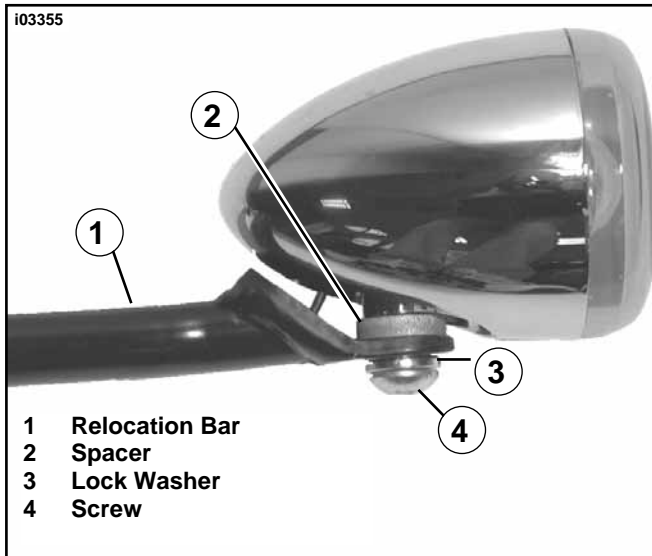

Figure 9. Installing 2-3/8 inch Turn Signals (Deuce Style)
15. **Installing 2-3/8 inch (Deuce Style) Signal Lamps.** See Figure 9. Apply Loctite® 243 (Blue) to screw (Part No. 4092). Using screw, lock washer (Part No. 7041) and spacer (Part No. 65849-01), attach lamp to signal relocation bar as shown. Spacer should be installed between signal and signal relocation bar. Tighten securely. Repeat Steps 13 and 15 for the opposite signal.